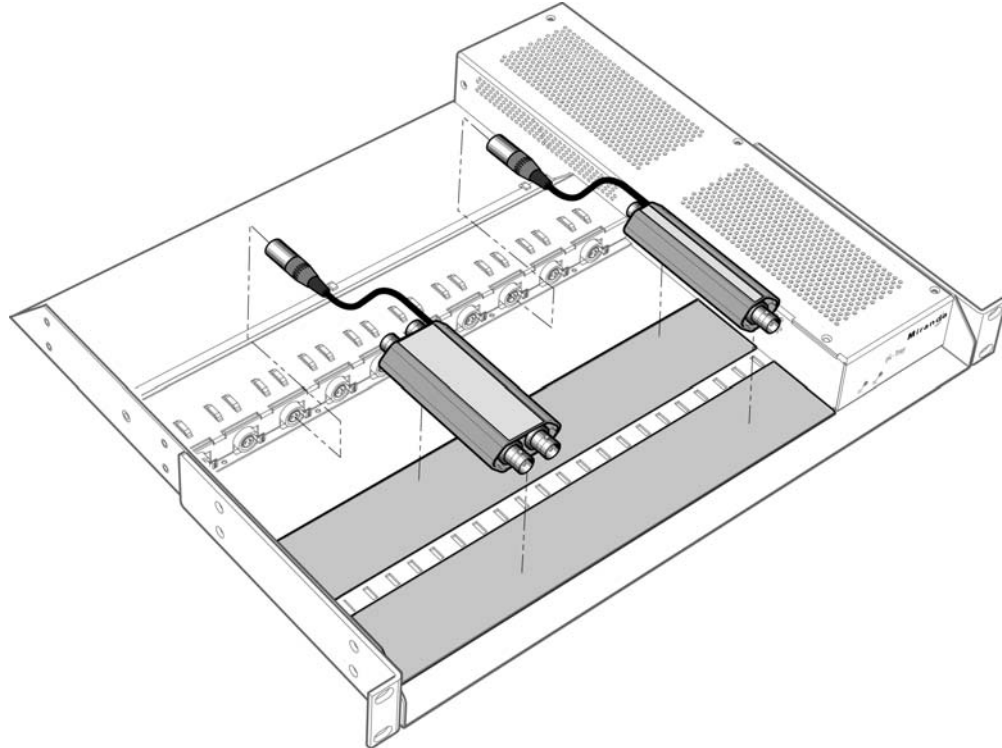

Figure 3.4 *Electrical picoLink installation*
3. Install up to 10 picoLink products as shown in Figure 3.4. Press the picoLinks firmly against the hook-and-loop fastener bands of the pL-Tray. If desired you may use plastic ties through the openings to secure the picoLink modules. Make sure that the DC plug of each picoLink is firmly installed in a DC power connector of the pL-Tray power frame.